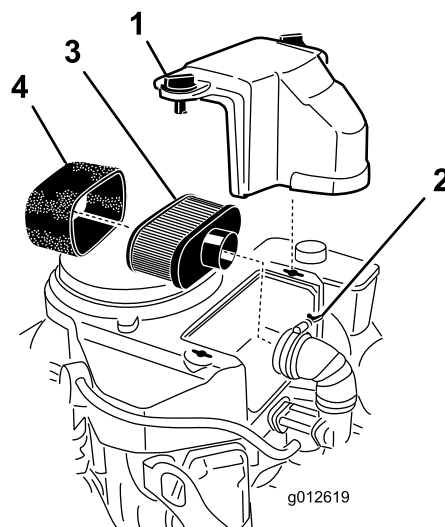

Figure 31
3. Clean around the air cleaner to prevent dirt from getting into the engine and causing damage (Figure 31).
4. Loosen the cover knobs and remove the air-cleaner cover (Figure 31).
5. Loosen the hose clamp and remove the air-cleaner assembly (Figure 31).
6. Carefully pull the foam element off the paper element (Figure 31).
1. Clean the paper element by tapping it gently to remove dust. If it is very dirty, replace the paper element (Figure 31).
1. Carefully slide the foam element onto the paper element (Figure 31).
2. Place the air-cleaner assembly onto the air-cleaner base or hose and secure it (Figure 31).
3. Place the air-cleaner cover into position and tighten the cover knobs (Figure 31).